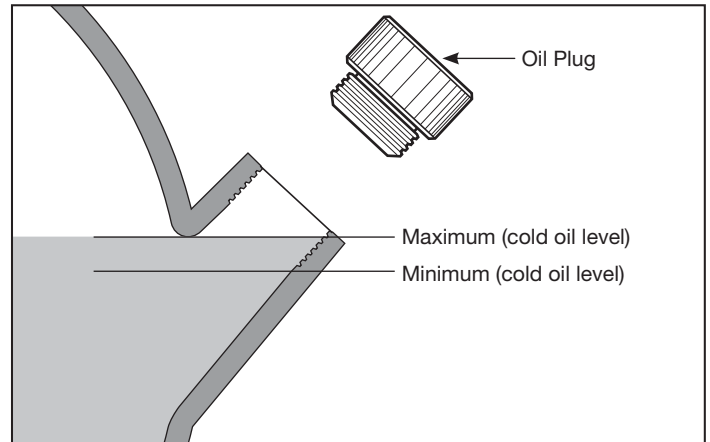

Figure 7 - Oil Level
THIS UNIT CONTAINS OIL. Before operating compressor, check oil level (see Figure 7).
OIL LEVEL CHECK (See Figure 7)
5. If necessary, top off oil of the same oil type and the same brand up to the maximum level (see Figure 7 and Lubrication section).
1. Check oil level (See Figure 7).